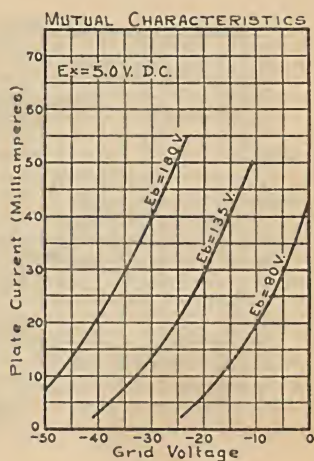

Fig. 12
**Mutual Characteristics**—Fig. 12 shows a family of grid voltage plate current curves at various plate voltages.